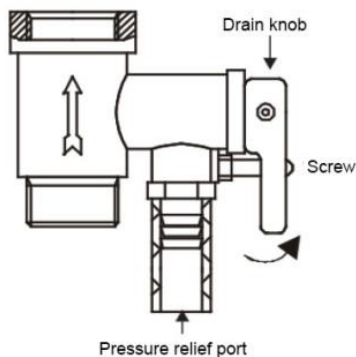

Fig. 6
4. Screw the safety relief valve on the inlet nozzle, which is marked in blue and has a water flow direction arrow in such a way that the water flow coincides with the direction of the arrow on the valve body. Put the water drainage tube* (water may appear during heating) on the pressure relief port of the safety relief valve to allow water drainage into the sewer (see Fig. 6) (the tube must be directed downwards and must not be bent).
6. To drain the internal tank, use the safety relief valve: unscrew the screw of drain knob on the safety relief valve and move the drain knob to the up position — the hot water outlet tap must be open and the cold water inlet tap must be closed (see Fig. 6). Water will start flowing from the pressure relief port of the safety relief valve.